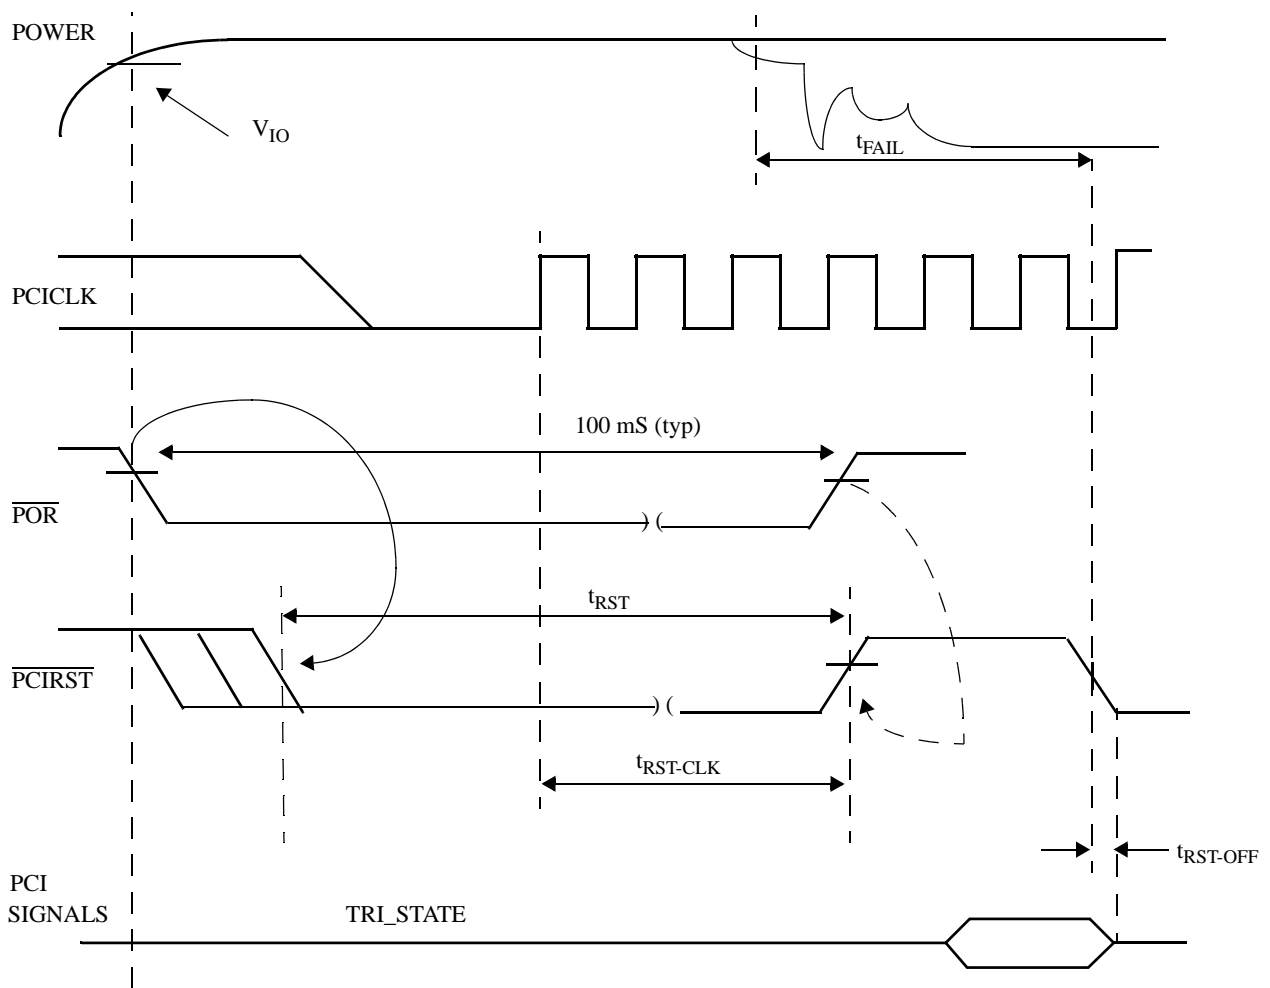

Figure 7-16 Reset Timing
6. \overline{PCIRST} is asserted and deasserted asynchronously with respect to PCICLK (see Figure 7-16).